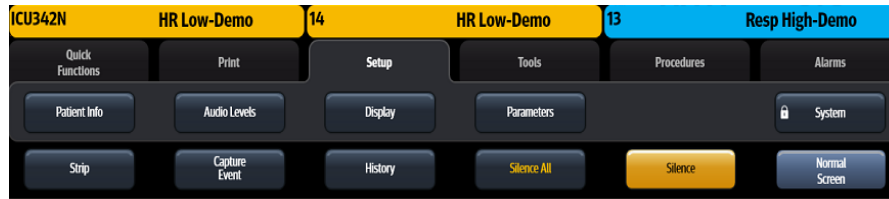

FIGURE 22-5 Example Alarm Watch Notification Strip (Three alarms)
When a watched bed is in alarm, it is either displayed in the A-W tile or displayed somewhere on the Main Screen (as shown in FIGURE 22-5). Both types of alarm notifications display the alarm type, flash in the corresponding alarm priority color, and indicate the alarms location. The **V 12/V 21** displays the three highest priority most recent alarms for the currently monitored beds. When there are more than three active alarms for the currently monitored beds, the **Show All** (as shown in FIGURE 22-4) button displays in the tile indicating that there are more than three beds in alarm.
- Select the A-W tile or the Alarm Watch Notification **Strip** (as shown in FIGURE 22-5). This opens the Remote View dialog and silences all the active alarms for the bed.